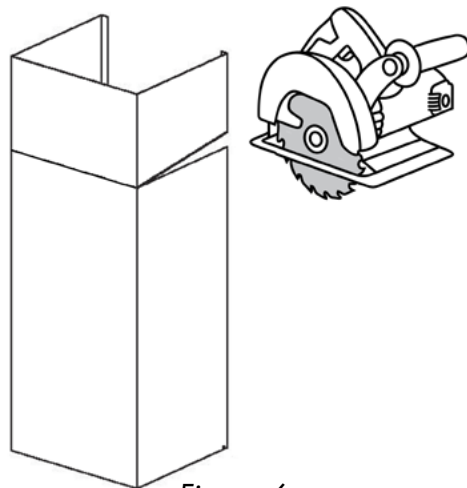

Figure 6
7. After precisely measuring the distance between the top of the range hood and your ceiling, have a trained professional cut your one-piece designer chimney to the desired length; you must leave a 2 1/4" (57 mm) gap between the chimney and ceiling in order to install the crown molding. *Figure 6*